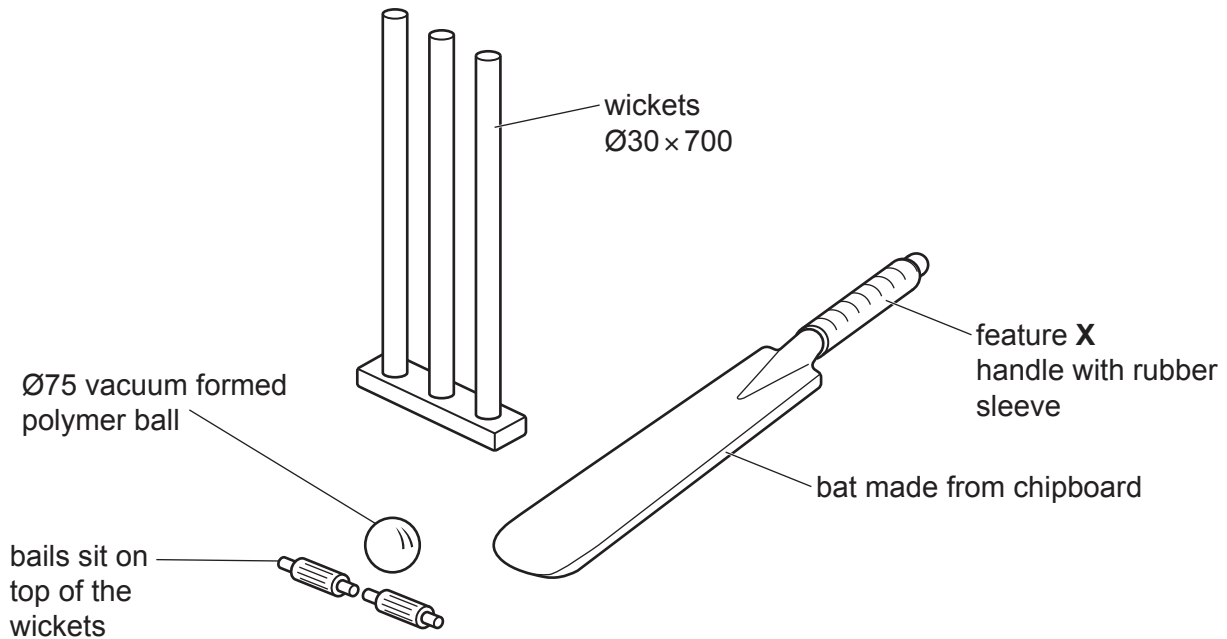

Fig. 4.1
- 4 Fig. 4.1 shows an incomplete design for an outdoor game.